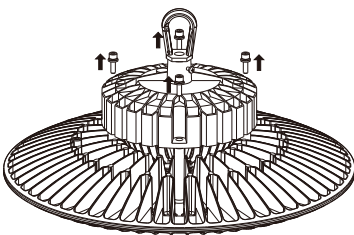
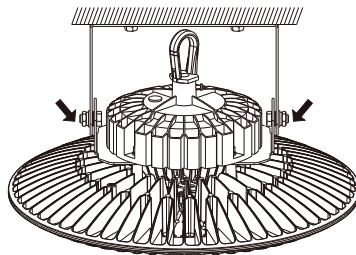

Fig. 4
Fig. 7
1. Remove the driver bolts. (Figure 4).
4. Adjust the angle of the bracket. This can be done by loosening the side bolts shown in figure 4, then retightening at the desired angle. (Figure 7).